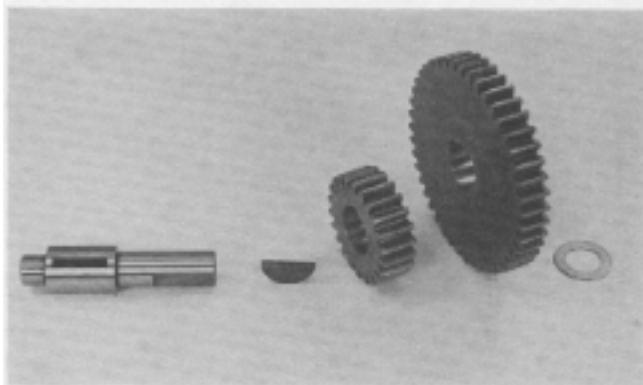

FIG. 39. Intermediate Gear Assembly
1. First intermediate gear assembly order is shown in Fig. 39. Parts are a slip-to-light press fit. Second intermediate gear and pinion are very tight fits and normally require a large press to separate them.